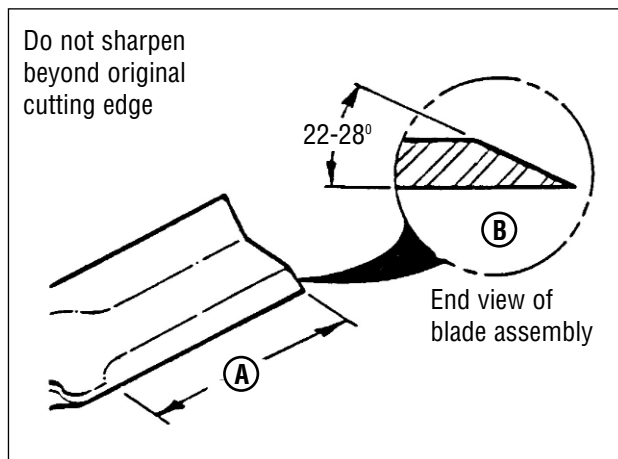

Figure 23: Sharpening the mower blade
- Sharpen the blade on a grinding wheel at an angle of 22 to 28 degrees (**B**, **Figure 23**). DO NOT sharpen the blade beyond the original cutting edge (**A**).